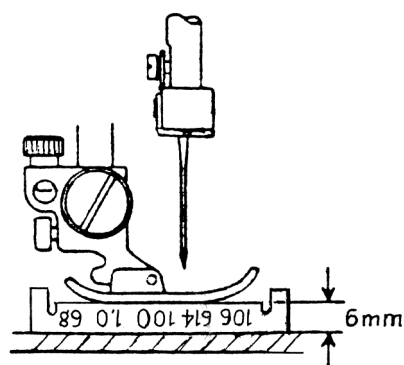

Fig. 15a
With the presser bar lifter raised there must be a clearance of approx. 6.0 mm between the needle plate and the zigzag foot shoe (fig. 15a).
- Place bridge gauge (No. 01-066141-00) under the zigzag foot shoe as shown in fig. 15a.
- Push bridge gauge under zigzag foot shoe as shown in fig. 15a.